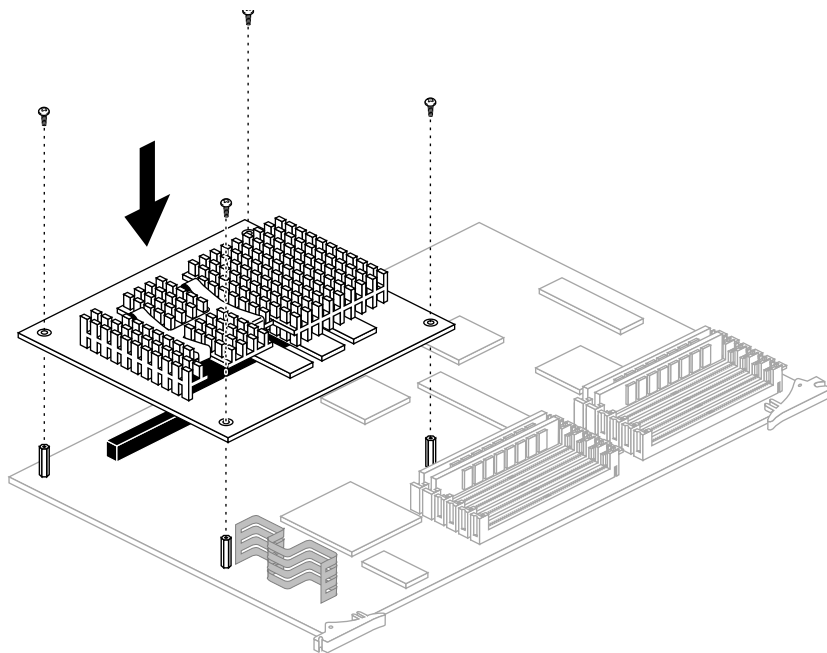

Figure 6-25 Installing the CPU Module
Note: The CPU module on your workstation may look different than the one shown in Figure 6-25.
- Position the new module so the connector on the bottom of the module aligns with the socket on the board, as shown in Figure 6-25.